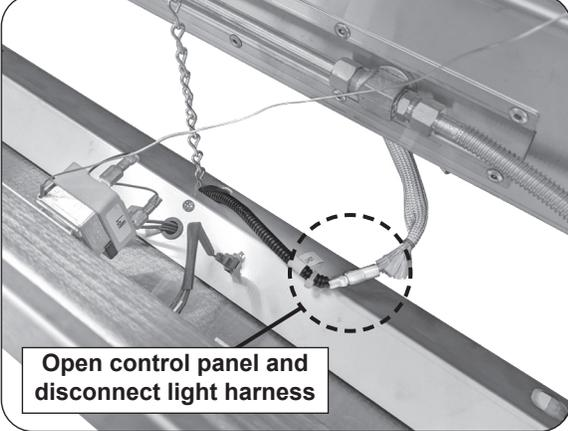

Fig. 1-2 Disconnect oven light harness
2. Disconnect the oven light harness (see Fig. 1-2).